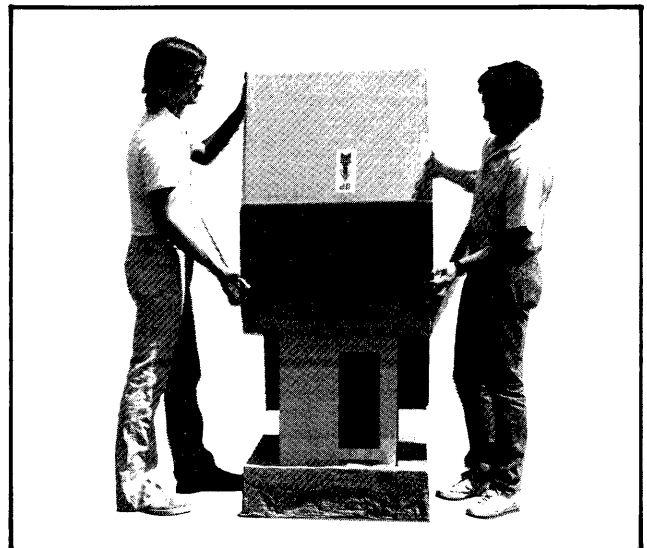

Figure 2-3
4. Lift off carton. (See Figure 2-3) (SAVE)